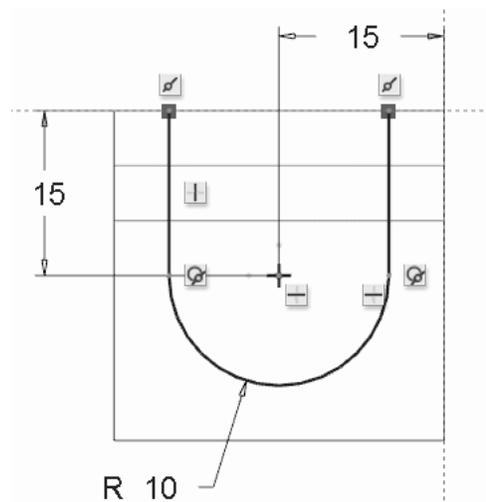

Figure 33 Final sketch for cut
Now left click at vertex 3 and draw a vertical line up to snap to the reference at vertex 4, making sure that you have a tangency constraint (T) at vertex 3. Our sketch is complete. Use the middle mouse button to return to **Select** mode. Your dimension values may be different from those shown in Figure 33. Your dimensioning scheme may even be slightly different. It will be easier to see this if you go to hidden line display instead of shading.
All the dimensions should be weak. Drag them to a better location if necessary (off the part). Don't be afraid to resize your display so that you can see everything clearly. Compare the dimensioning scheme with the one in Figure 33. We want to have
Modify the values of the dimensions to match those in Figure 33.